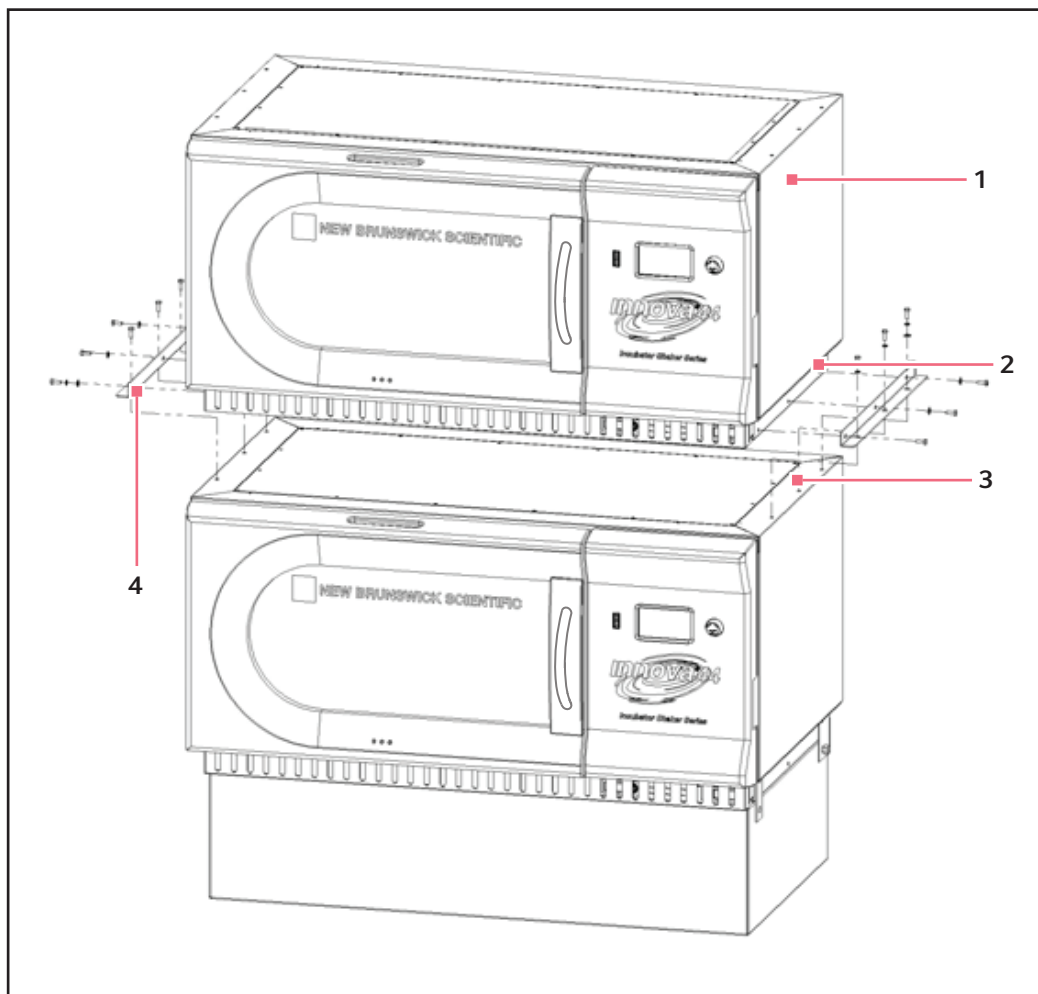

Fig. 6-5: Install Innova 44/44R Stacking Kit
3. With reference to the figure below (see Fig. 6-5 on p. 26), remove the set screws from the top of the bottom unit, on the two side edges, and remove the set screws (from the sides of the unit to be stacked) that correspond to the mounting brackets.
4. Using the screws and washers provided, attach the stacking kit mounting brackets to the top of the bottom unit. Secure the brackets in place as shown (see Fig. 6-5 on p. 26).